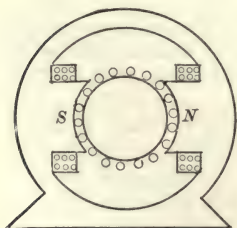

FIG. 312 — Bipolar motor.
- Figure 312 represents a bipolar motor with the armature revolving counter-clockwise. Copy it and indicate by dots and crosses* in circles, the direction of the various currents.